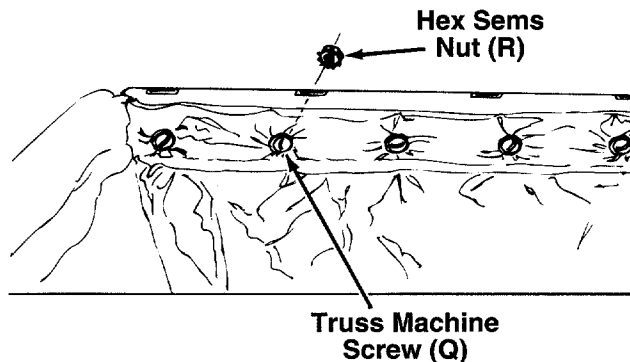

FIGURE 5.
3. Attach the front of grass bag to the hanger bracket with five truss machine screws (Q) and hex sems nuts (R). The heads of the screws go on the inside of the bag as shown in figure 5.